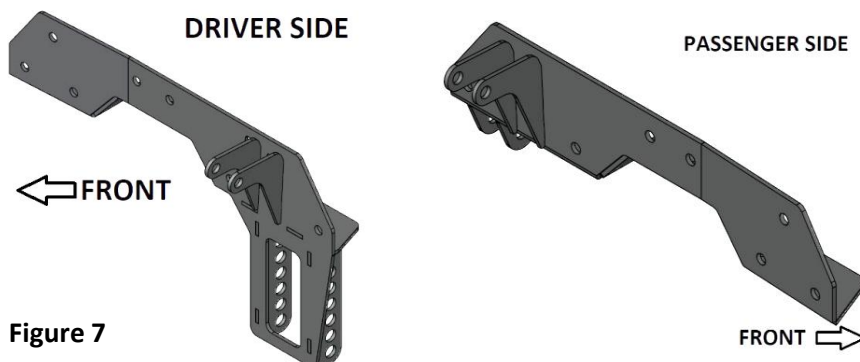

Figure 7
- Complete steps 1-5 for the driver side notch bracket. (**Figure 7**)